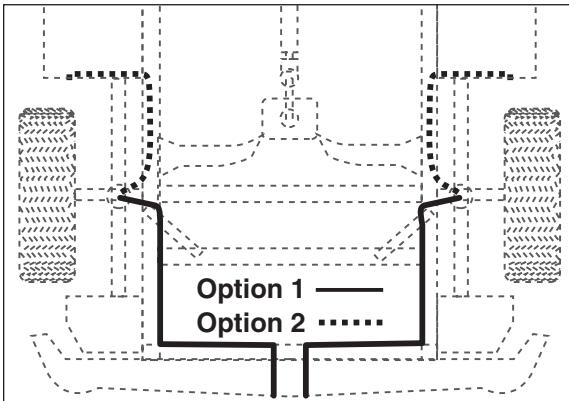

Figure 10
NOTE: Whatever the chosen location is, make sure there is enough clearance around the inflation valves for an air chuck (Figure 10).
6. Route the air line along the frame to the air fitting on the air spring (Figure 10). Keep at least 6" of clearance between the air line and heat sources, such as the exhaust pipes, muffler, or catalytic converter. Avoid sharp bends and edges. Use the plastic tie straps (BB) to secure the air line to fixed, non-moving points along the chassis. Be sure that the tie straps are tight, but do not pinch the air line. Leave at least 2" of slack to allow for any movement that might pull on the air line.
7. On the Passenger side only, place the provided thermal sleeve (T) on the air line near the exhaust.